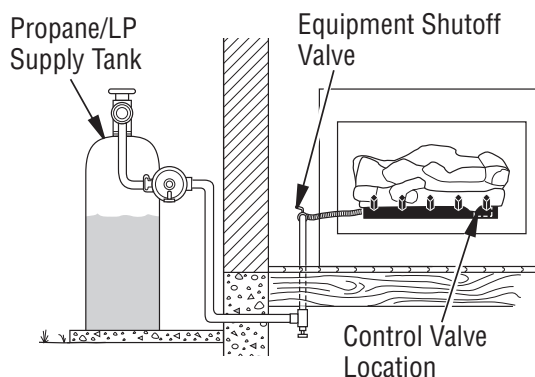
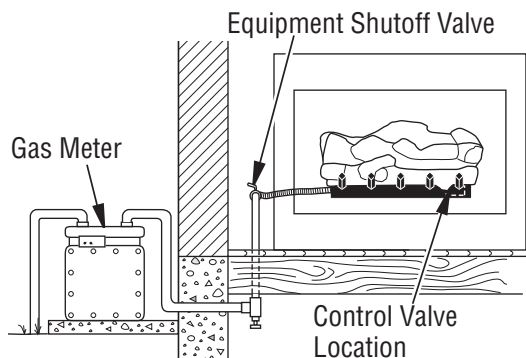

Figure 16 - Checking Gas Joints (Propane/LP Only)
Figure 17 - Checking Gas Joints (Natural Gas Only)
3. Check all joints from gas meter to equipment shutoff valve for natural gas or propane/LP supply to equipment shutoff valve for propane/LP (see *Figures 16 or 17 on Page 15-16*). Apply noncorrosive leak detection fluid to all joints. Bubbles forming show a leak.
4. Check all joints from gas meter to equipment shutoff valve for natural gas or propane/LP supply to equipment shutoff valve for propane/LP (see Figure 16, Page 15 or Figure 17). Apply noncorrosive leak detection fluid to all joints. Bubbles forming show a leak.